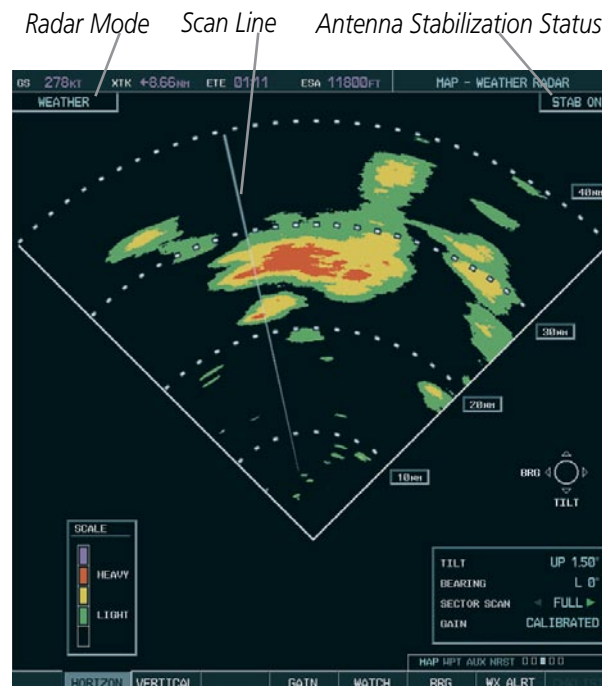

Figure 6-90 Horizontal Scan Display
- 5) The horizontal scan is initially displayed (Figure 6-90). If desired, select the **VERTICAL** Softkey to change to vertical scanning.